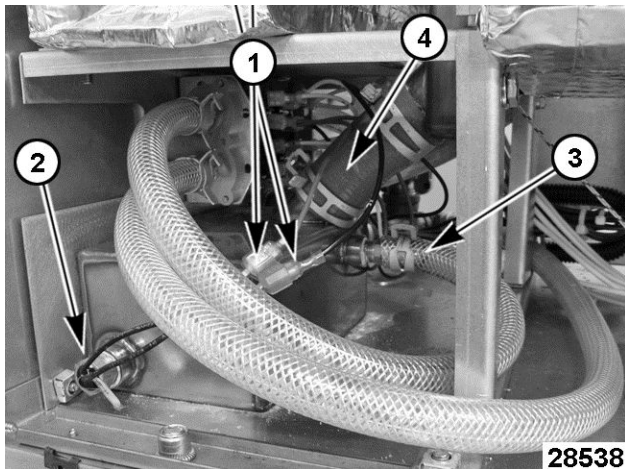

Fig. 25
4. Disconnect condensate thermostat wires [1] Fig. 25.
- A. Remove condensate thermostat [2] Fig. 25 from drain box. Retain for use on replacement drain box.
5. Disconnect drain water cooling solenoid hose [3] Fig. 25 and cooking compartment drain hose [4] Fig. 25 from drain box.